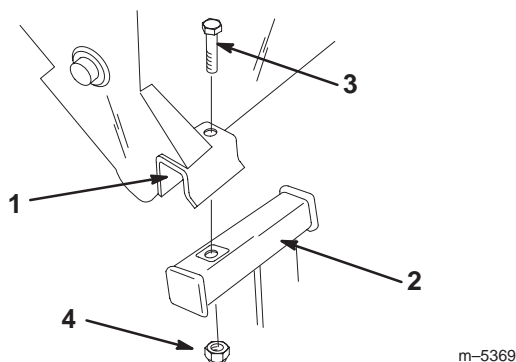

Figure 5
3. Remove the brackets and fasteners from the seeder box mounting pockets (Fig. 5).
7. Install the seeder box over the brackets (Fig. 5).
8. Secure the seeder box to the mounting brackets using 2 bolts (M12 x 60) and locknuts (M12) (Fig. 5).